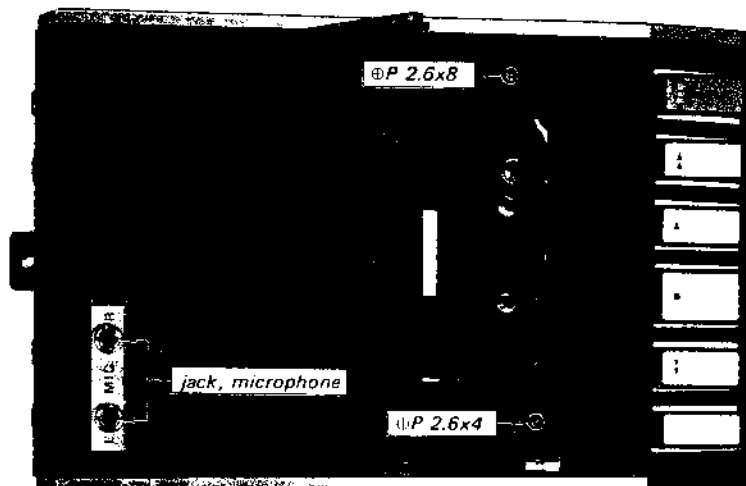

Fig. 2-4 Top cover removal (2)
2. Remove the two nuts securing the microphone jack to the top cover, and the two screws (ØP 2.6x4, ØP 2.6x8) securing the top cover to the chassis. See Fig. 2-4.